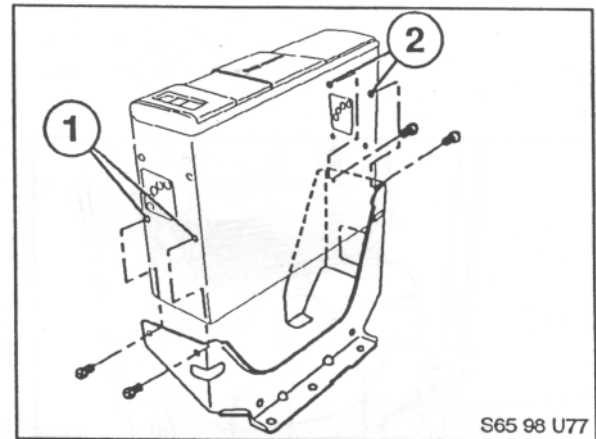

Figure 5
5. Attach the mounting bracket to the CD Changer using the mounting hardware (M4) shipped with the CD Changer. Use lower mounting holes for Left side and higher ones for right side (see Figure 5).